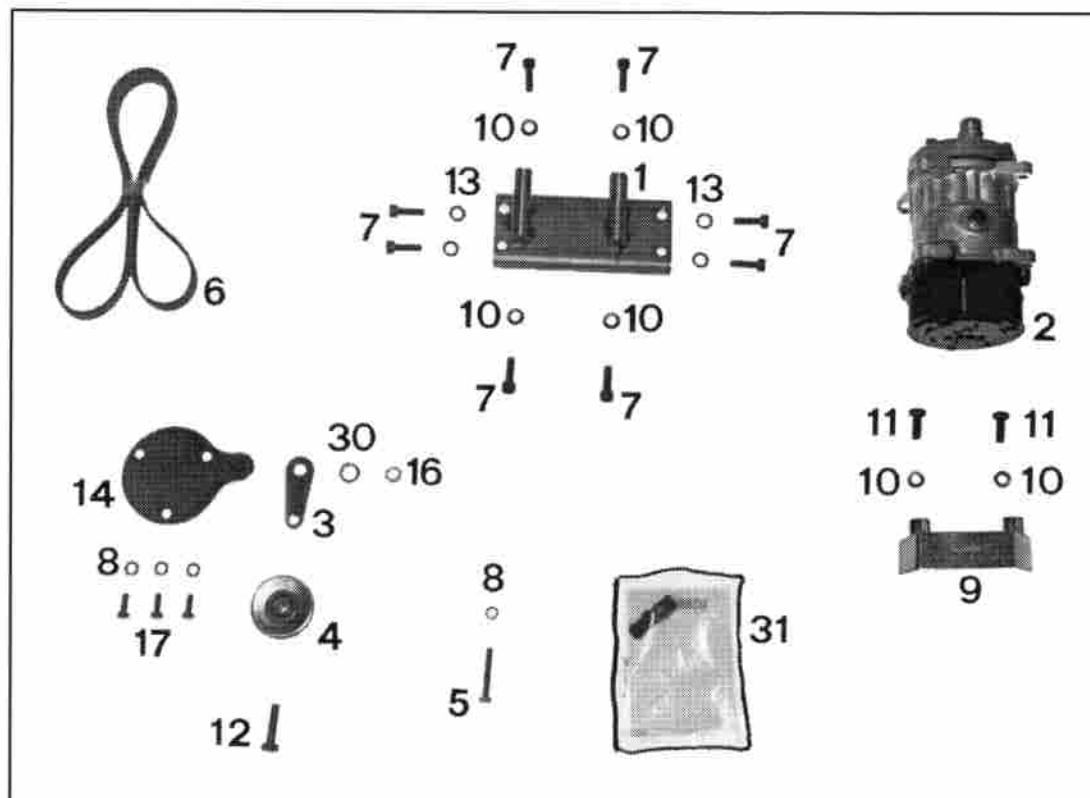

FIG. 1
**ELENCO MATERIALE FORNITO (FIG. 1)**
**LISTE DU MATERIEL FOURNI (FIG. 1) / LIST OF SUPPLIED MATERIALS (FIG. 1)**
**VERZEICHNIS DES GELIEFERTEN MATERIALS (ABB. 1) / LISTA MATERIAL ABASTECIDO (FIG. 1)**